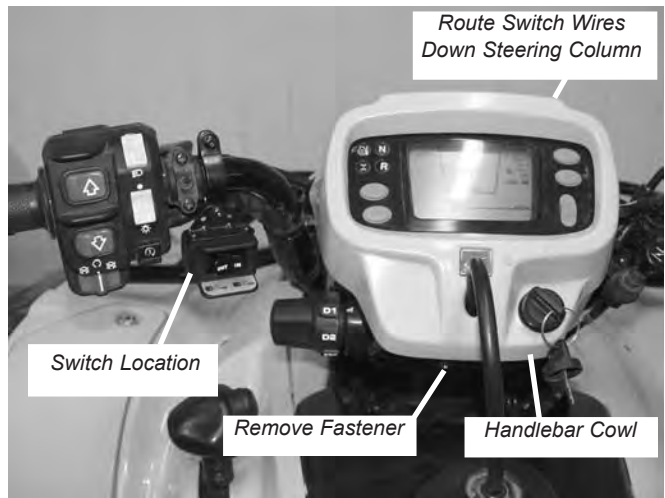

Figure 22 Switch Location
b. Mount the winch switch in the location shown in figure 22. The recommended location is on the bottom of the left side of the handlebars.